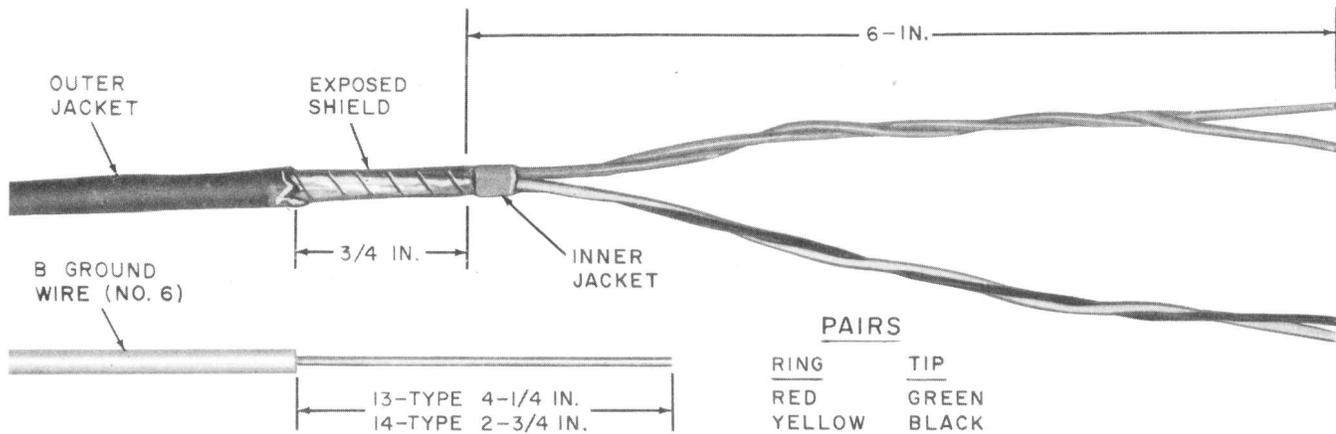

Fig. 7—Prepared 2-Pair Service Wire (5-Pair Service Wire Preparation same as 2-Pair)
3.05 Prepare filled service wire and B ground wire as shown in Fig. 7.
- 4.04 Prepare waterproof service wire and B ground wire as shown in Fig. 7.